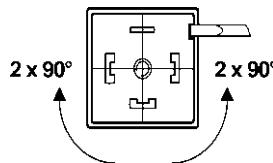

Fig. 4: Turning the manifold
- ➔ Carefully underlay the manifold with the screwdriver blade and lever it out (Fig. 4).